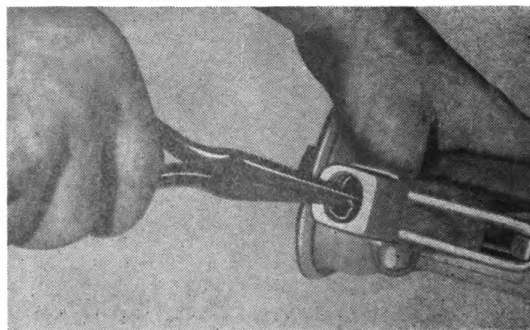

Figure 191
(1) Unscrew valve spring retainer (See Figure 191), and remove spring and valve assembly.